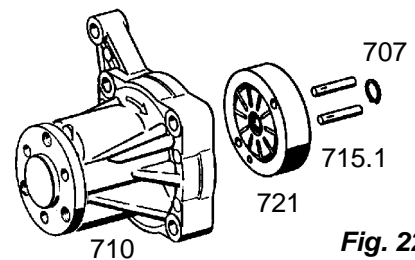

Fig. 22
Set the complete rotor, with internal chamfer towards the housing (710), on to the shaft (703) (**Fig. 22**).